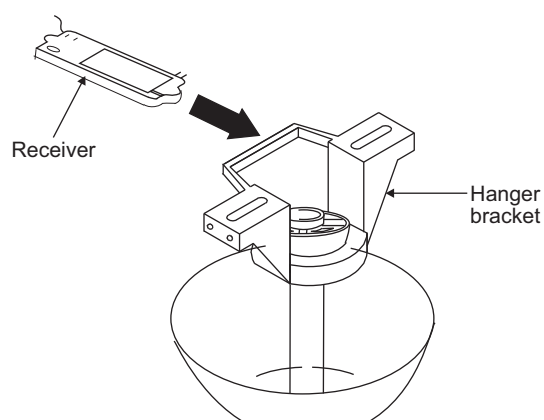

Figure 13
Step 1. (Figure 13) Insert the receiver into the mounting bracket with the flat side of the receiver facing the ceiling.